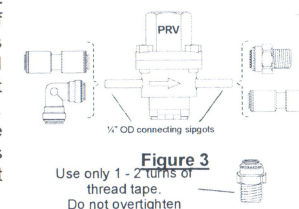
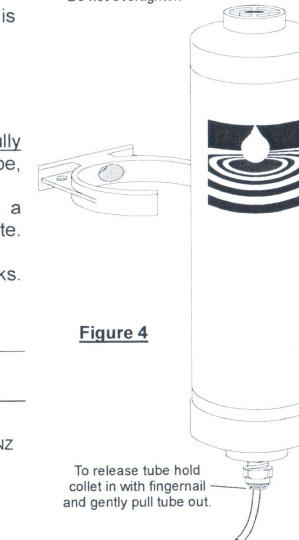

Figure 3
Figure 4
- ♦ The **Dish Washer Take Off (DWTO)** connector is designed to go straight onto the 20mm ($\frac{3}{4}$ ") tap connection for the dish washer. Fit the **Quick-Fit** fitting (see Figure 3 for operation) into one of the side ports and use the spare "bung" to block other ports not required. Turn off the tap on the wall, remove any existing hosing leading to an appliance, fit the DWTO onto the tap and reconnect any hose. Leave tap turned off until Step 6.
- If fitting the **Waterline PRV**, it goes **before the housing** and the flow direction is indicated by an arrow on the side. The PRV accepts a variety of **Quick-Fit** connectors and some options are illustrated in Figure 3. If mounting directly to the housing (using the male connector as illustrated in Figure 4) ensure the PRV is not likely to be exposed to violent knocks that could break the spigot. If in doubt, mount PRV out of potential danger using the keyed slots provided. Quick-Fit connectors detach from the PRV using the same method as illustrated in Figure 4. The Waterline PRV comes factory set with an output of 350 Kpa and it is recommended that this setting is left untouched.